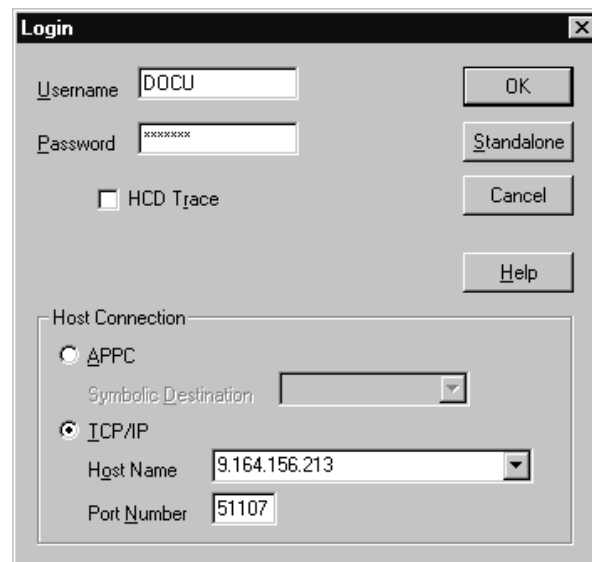

Figure 19. Login Dialog
4. Enter user ID (default: CBDIODSP) and password of your service virtual machine (SVM) into the **Login** dialog (see also Figure 19 on page 39). Use the TCP/IP host connection with the hostname or IP address of your SVM and your port number (51107 is the default).